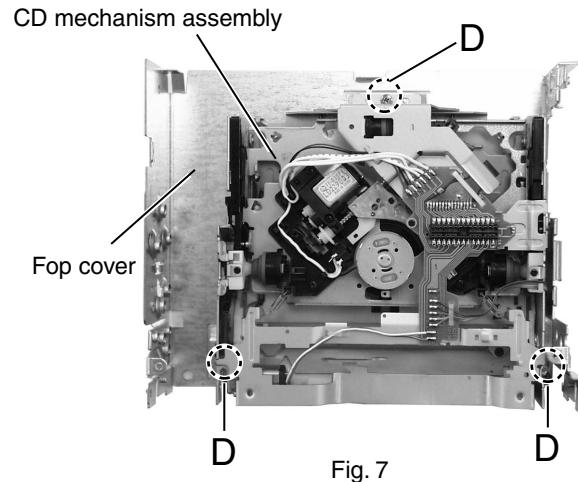

Fig. 7
■ Removing the CD mechanism assembly (See Fig.7)
- The CD mechanism ass'y (Refer to Fig.7)